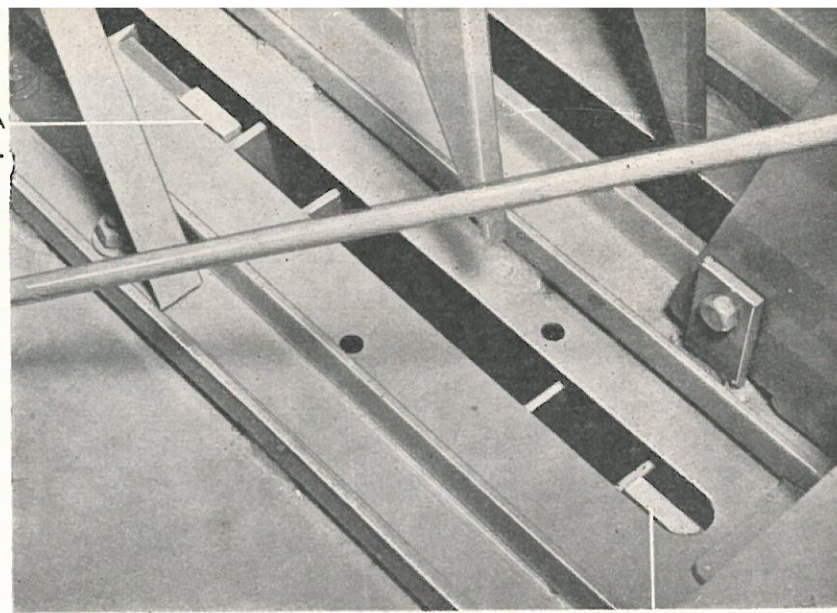

Fig. 22
1. With adjusting flange and chain disconnected, turn the flywheel in an anti-clockwise direction until the ram face blocks A & B (Fig. 22) are in the centre of the first slot in the packer shield on compression stroke. (This is the slot nearest the front of the baler).